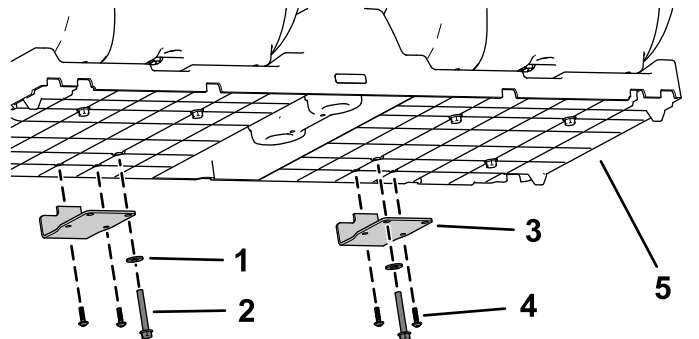

Figure 8
1. Install the 2 seat-hinge brackets onto the seat-base assembly using the previously removed 4 torx-head screws, 2 flange-head bolts, and 2 washers (Figure 8).